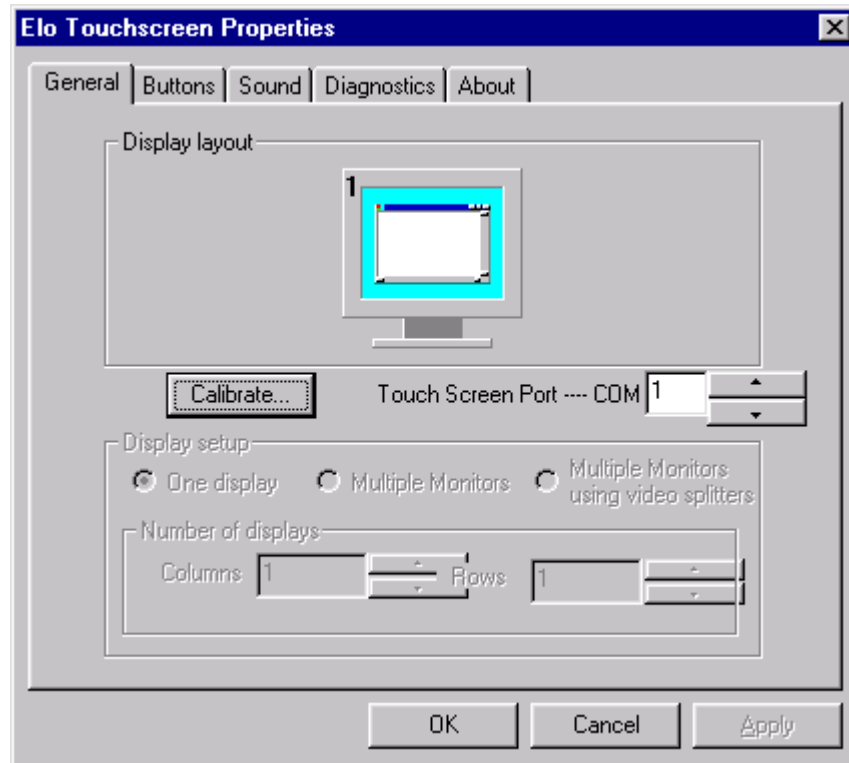

FIGURE 20. Touchscreen Dialog
8.10 On the 'ELO Touchscreen' dialog, press the 'Calibrate' button. See Figure 20.